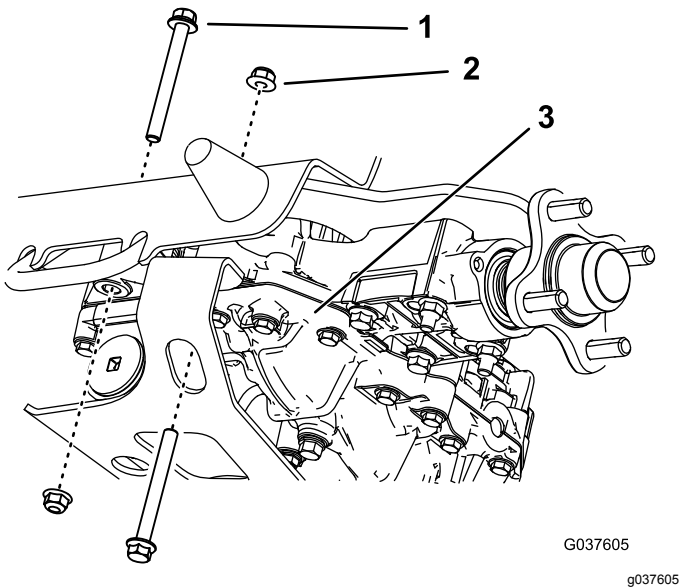

Figure 9
5. Remove the 2 rear bolts and 2 nuts from the right transaxle (Figure 9). Retain the nuts.